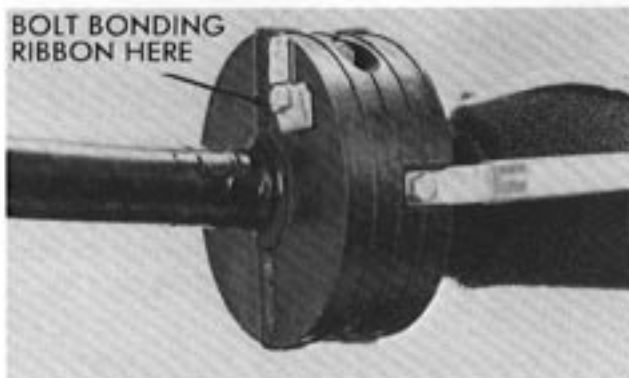

FIGURE 29 - INSERTION OF BONDING RIBBON ONTO BONDING CLIP - END PLATE EXTERIOR
9.02 Bolt the bonding ribbon and clip to the outside face of the End Plate in a similar manner (Figure 29).